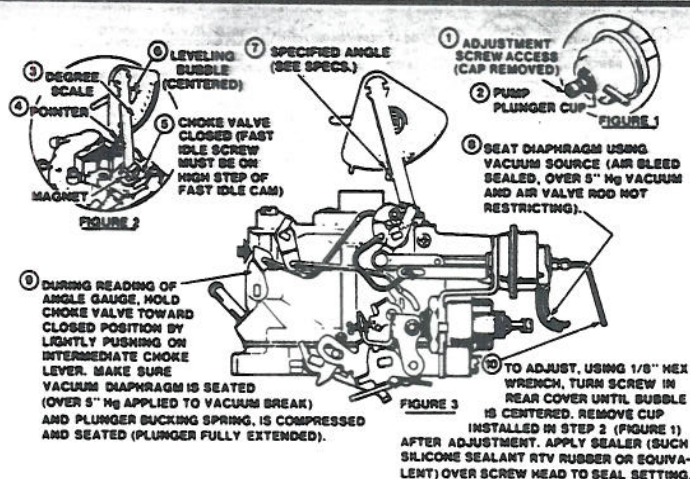

Fig. 13 Primary vacuum break adjustment. 1981-82 E2SE carburetor
1. Rotate degree scale until zero is opposite pointer, then with choke valve completely closed and fast idle screw on high step of fast idle cam, place magnet squarely on top of choke valve and rotate bubble until it is centered, Fig. 13.